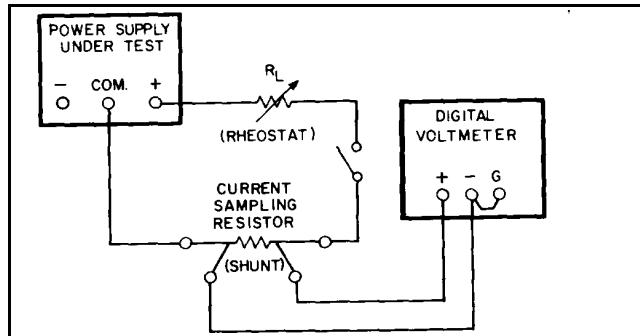

Figure 5-3. Output Current, Test Setup
g. Connect the test setup shown in Figure 5-3 to the +6V (or +18V) output. Make the total resistance of R_L and the current sampling resistor 2.4 ohms for the Model 6236B (or 18 ohms for the 6237B) to permit operating the output at full load. R_L should have a power rating of at least 20 watts.
k. Check the rated output and ammeter accuracy of the +20V and -20V supplies similarly by connecting the test setup of Figure 5-3 to each output in turn. For each 20V supply: make the total resistance of R_L and the current sampling resistor 40 ohms, set the $\pm 20V$ VOLTAGE control for a current indication, on the DVM of 0.5A, check that panel meter
- m. Connect the test setup shown in Figure 5-3 to the +20 volt output. Substitute a short for R_L and leave the load circuit switch open.
- r. (Steps (r) through (t) apply to the 6236B only.) Connect the test setup shown in Figure 5-3 to the +6V output. Close the switch, set the total resistance of R_L and the current sampling resistor to an initial value of 2.4 ohms or greater, and set the output voltage to 6 volts.